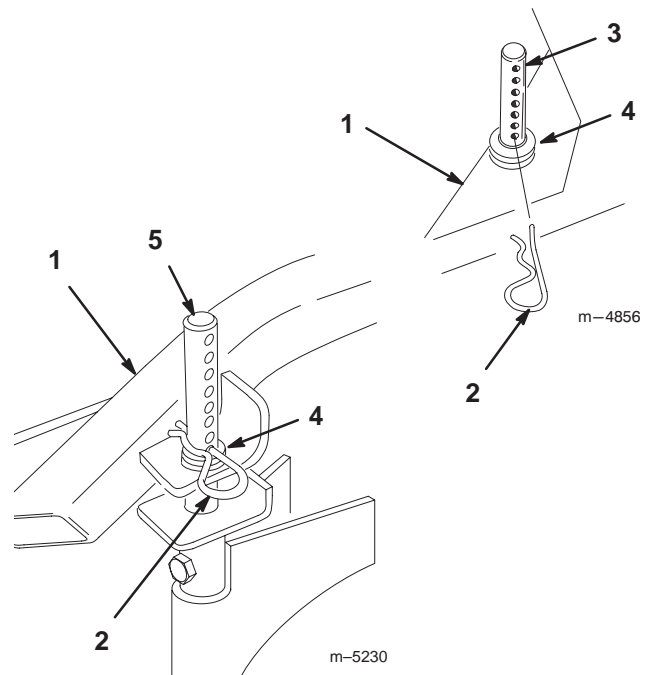

Figure 20
1. To adjust, remove hairpin cotter from height-of-cut post (Fig. 20).
2. Select hole in height-of-cut post corresponding to the height-of-cut desired (Fig. 20).
3. Lift on side of deck and remove hairpin cotter (Fig. 20).
4. Add or remove spacers if needed and then align holes and insert hairpin cotter (Fig. 20).